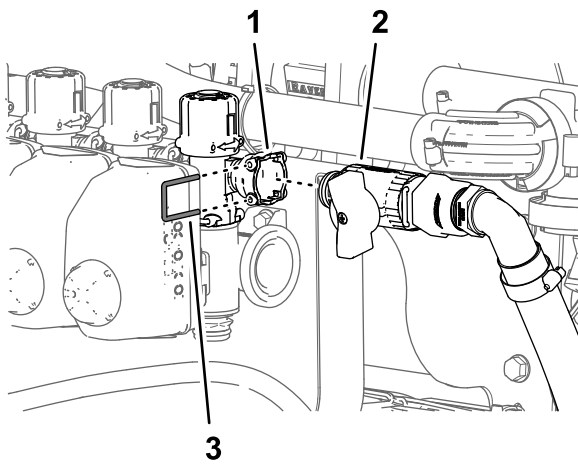

Figure 112
- Assemble the quick-disconnect fitting of the bypass-shutoff valve with the quick disconnect fitting (socket) of the bypass valve (Figure 112).
2. Secure the quick disconnect fittings for the bypass-shutoff valve and the bypass valve with the retainer (Figure 112) that you removed in step 3 of Positioning the Bypass Valves—Machines with the Optional Hand Wand Kit or the Optional Electric Hose Reel Kit (page 43).